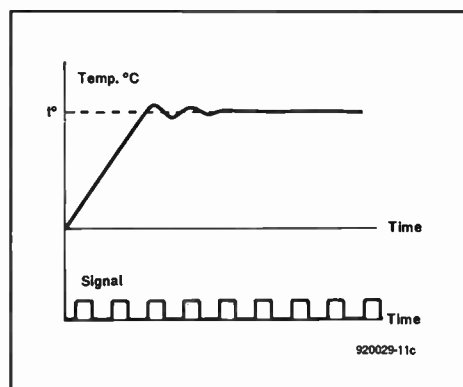

Fig. 1c. Proportional integral control.
- **Proportional integral control.** This is similar to proportional control, but introduces an integral control action that reduces the offset level as shown in Fig. 1c. The actual temperature differs from the set point by 0.5–3 °C. This type of (expensive) control is used for sensitive laboratory temperature-humidity ovens and for industrial injection machinery.